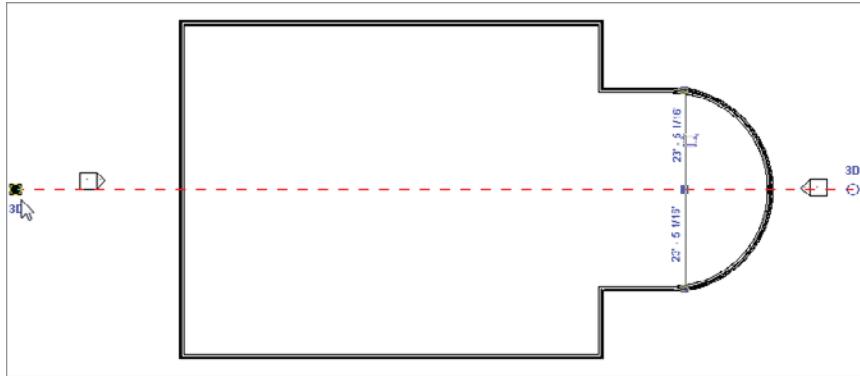

FIGURE 2.3 You can grip-edit reference planes to the required length.
4. Draw the reference plane through the center of the building, extending each end past the exterior walls. (Remember, this is a construction line. You can go long if you need to.) See Figure 2.3 for an idea of where the line should go. If you're having trouble locating the reference points for the start of the reference plane, make sure you're snapping to the midpoint of the walls. You can also type `SM` to snap to the midpoint of the wall.
6. If the line isn't the length you want, you can stretch it. First select the line; at each end, you'll see blue grips. Simply pick (left-click) the grip, and stretch the reference plane to the desired length, as in Figure 2.3.